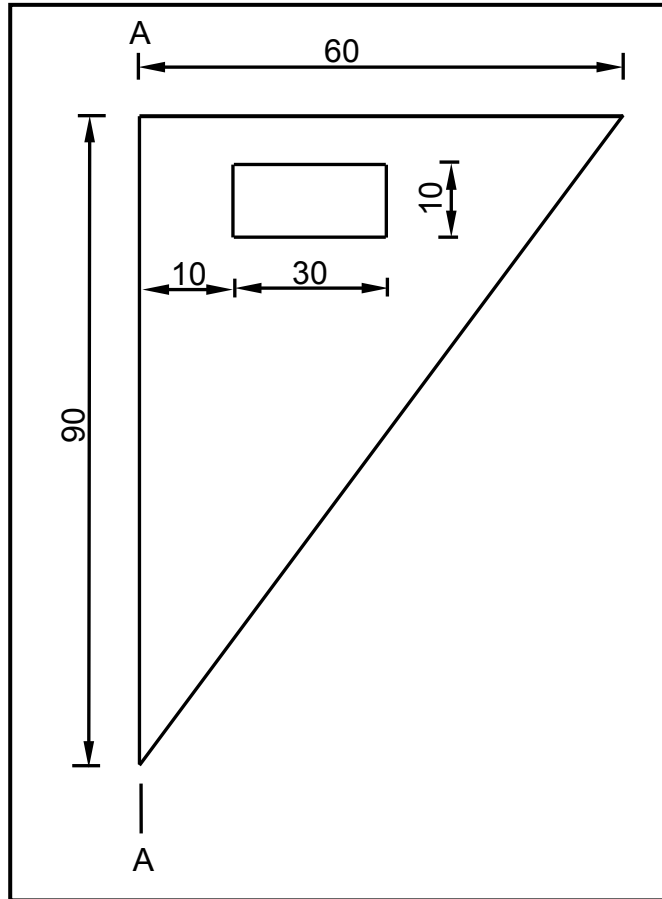

FIGURE 5.3
5.3 FIGURE 5.3 below shows a lamina of a right-angled triangle with a rectangular hole in it. Calculate the position of the centroid of the lamina from A–A. Round off your answer to TWO decimals.